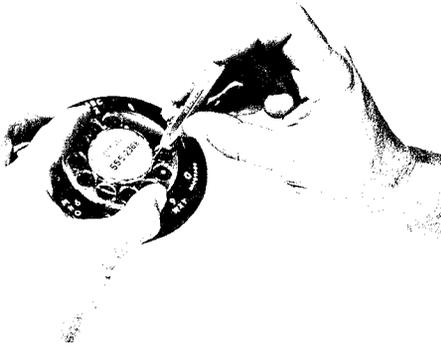

Fig. 4 — Removing Plastic Fingerwheel
(1) Rotate fingerwheel as far as possible in clockwise direction.
(2) Insert KS-16750, List 2 releaser into small hole located in edge of raised center of fingerwheel (Fig. 4) and push down to disengage the fingerwheel clamp spring.
(3) When clamp spring releases, remove fingerwheel.